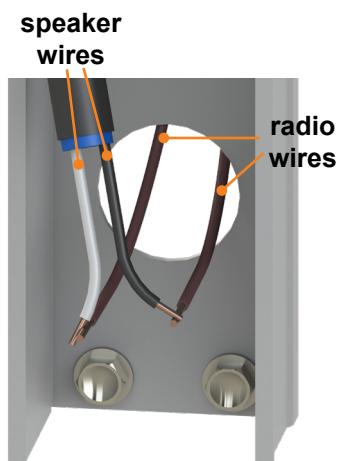

Fig.11
2. At both support arm assemblies there will be a wire labeled "speakers." Connect these to the radio wires provided from the unit (**Fig.11**).